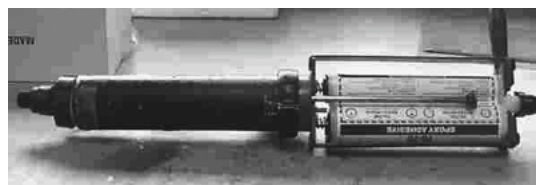

Figure 1: TG-75 cartridge properly inserted into pneumatic gun.
2. Insert the cartridge assembly: Place the open end of the cartridge assembly over the piston pads. Be careful to align the pads in the centre of the cartridge plungers. If the pistons are not centred, the plungers may flip or be pushed unevenly resulting in improper mixing and leaking. Snap the front end of the cartridge assembly into position at the front of the gun. Manually push the piston forward until they bottom out against the inside of the cartridge plungers. See Figure 1.